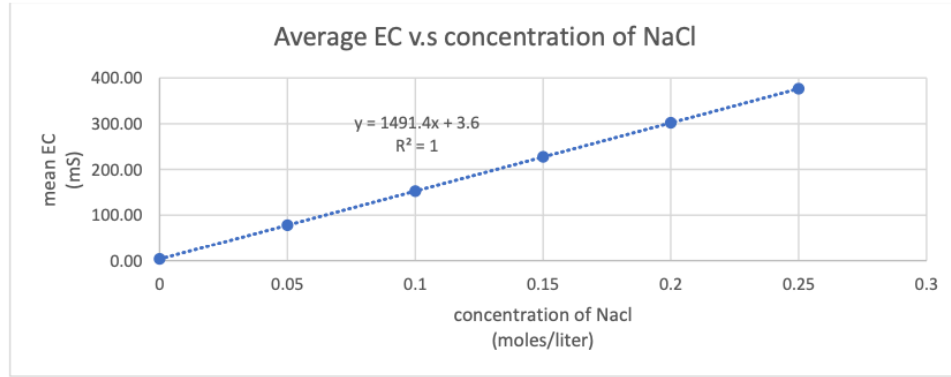

Figure 3: The graph showing the converted EC data into NaCl concentration using the new model
The mean vs concentration NaCl are presented in the figure 3 below.
4. The fourth objective was to use the linearized model above and the relationship between EC and concentration NaCl in figure 3 of to transform the change of NaCl concentration Data with time $Y_{(t)} = \ln\left(\frac{dC(t)}{dt}\right)$. This was achieved through the table3 and 4 below:
Table 2 consists of dependent variable, the mean electrical conductivity and independent variable, standard concentrations of NaCl in moles for each liter. The relationship between the variables is linear, so no need to transform. To get a new C model, I need to use linear regression to find parameters b, m and r in order to form the equation $y = mx + b$ as shown in figure 3. The equation of this relationship is $y = 1491.4x + 3.6$ where 1491.4 is the slope and 3.6 the y intercept, beside that I can tell the y-intercept is true because I can see a line almost cross the origin. This model for transformed standard concentration of NaCl and mean electrical conductivity has r of 1.0 bigger than 0.9. This shows b and m are good to use to present the new concentration of NaCl (x-axis) and EC (y-axis) model $C_{(t)} = \frac{EC_{(t)} - 3.6}{1491.4}$. Also, on the figure 3, I did use the error bar and it didn't show up on the vertical line because the standard deviation is smaller than the mean EC. Therefore, the error bar will not show up if I do it right.